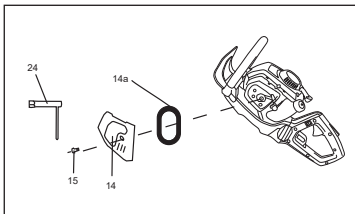

Fig. 26
2. Open the air filter case by loosening the fixing screw (15) with the multi tool (24).
3. Remove the screw, cover (14) and take the filter (14a) out (Fig. 26).
6. Put the air filter cover (14) back in place and fix it with the screw (15).